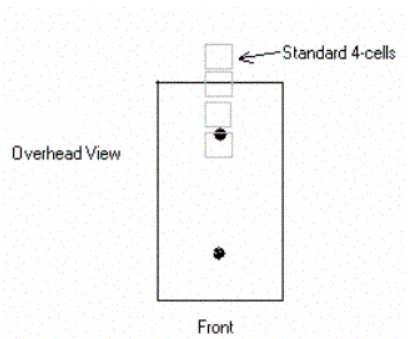

Figure-15 Remove Front Screw
- Step 5 Looking over the Sample Compartment, remove the front screw (Figure-15).
- Step 5: Looking over the Sample Compartment, remove the front screw (Figure-15).
- Step 4 Looking over the Sample Compartment, remove the front screw (Figure-15).